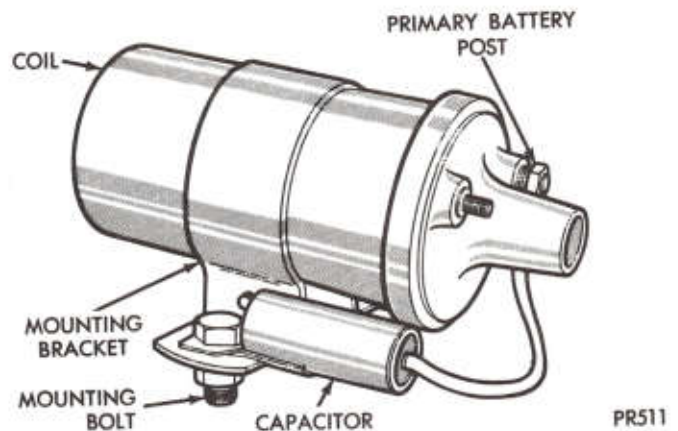

Fig. 2—Ignition Coil Suppression Capacitor
- On coil mounting screw with the lead connected to the positive primary terminal of the coil (Fig. 2).
(2) Ground straps are utilized from cab to box.